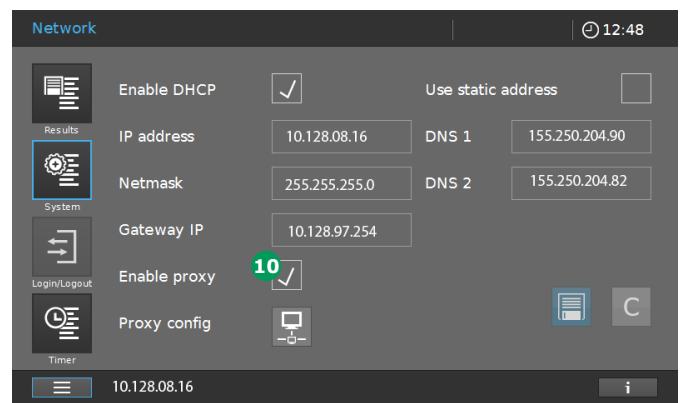
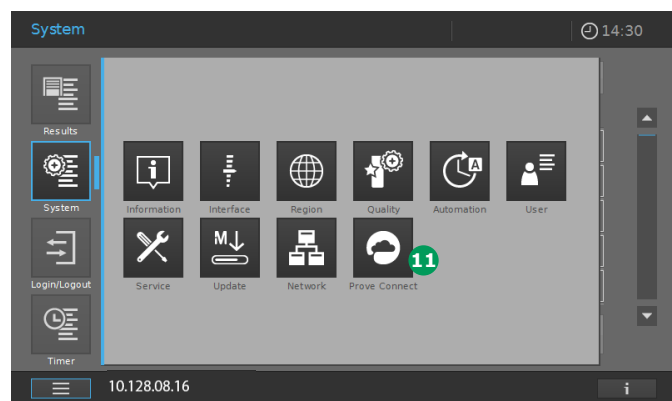

Figure 26 - After closing the previous window shown in Figure 25, the network window will appear again
Figure 27 - Screen of Prove's system menu
4. Enable proxy **10** in the Network menu (Figure 26) and click on the "save" button. You will be redirected to the system screen as shown in Figure 27.
5. Enable Prove Connect in the Prove System menu **11** (Figure 27).